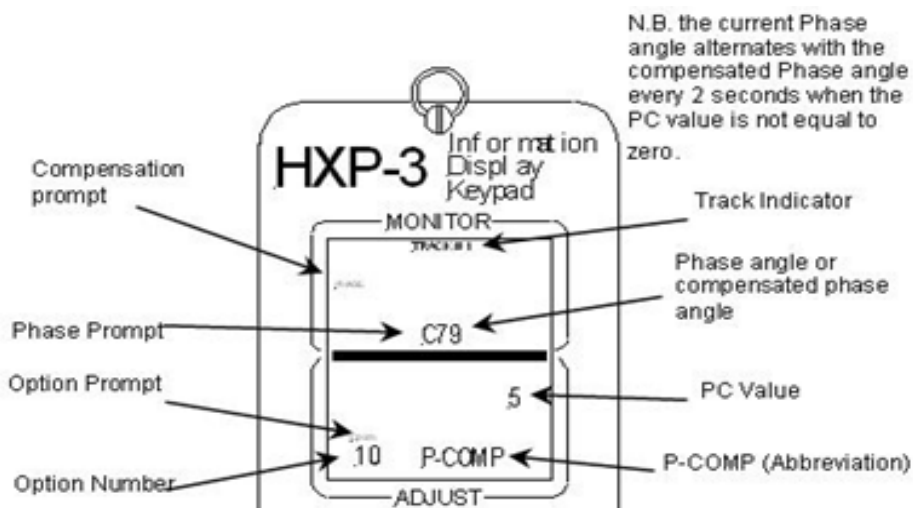

Figure 6 – HXP-3 Display Information
8.11 Enter the password and Press the ENTER button until the abbreviation “P-COMP” and the TRACK indicator begin to flash and the OPTION prompt stops flashing. When the PC value is enabled for adjustment, the Monitor area of the IDK changes to display the PHASE prompt and the current Phase angle as shown in figure 6.